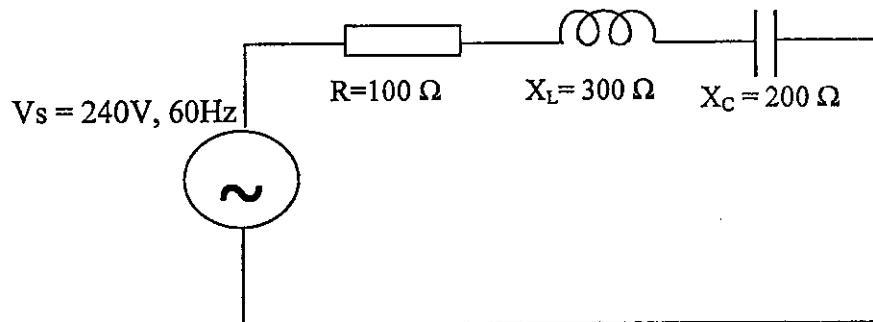

Figure 2 (c) / Rajah 2 (c)
- (c) Referring to the circuit in Figure 2 (c), calculate :